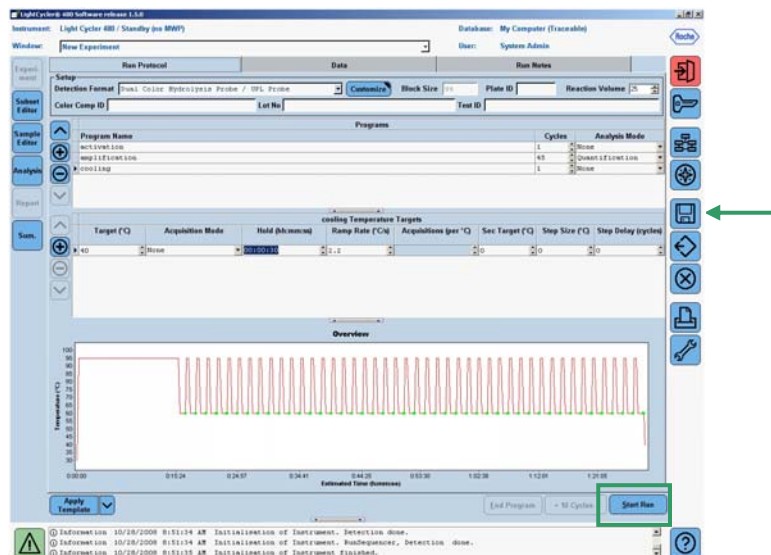

FIG.9
- Run the amplification program (stored according to the instructions described in section “LightCycler 480 Programming”) by clicking in **EXPERIMENT** section on **START RUN** (Fig 9).